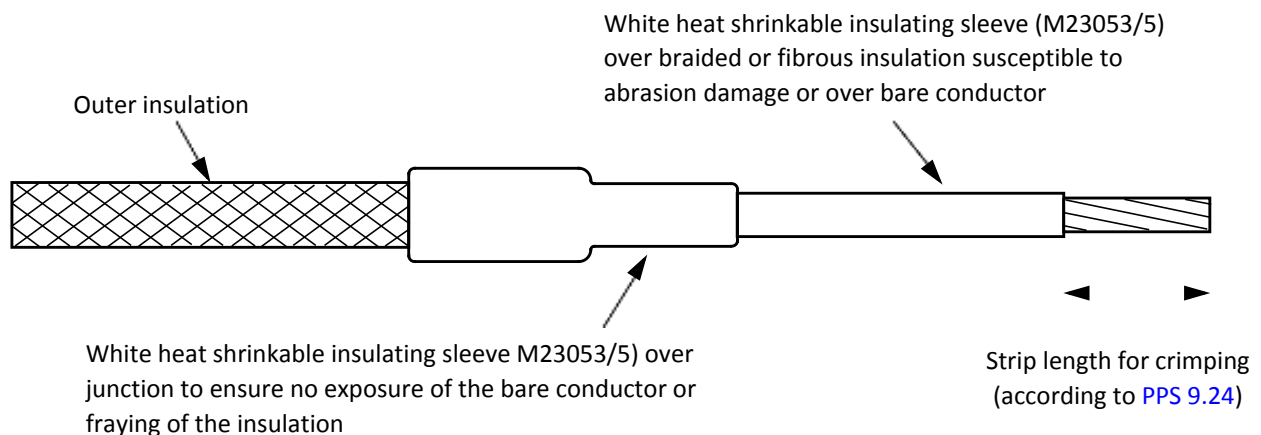

Figure 2. Standard Preparation of High Temperature Wire
- If there is any risk of exposure of the bare conductor at the junction where the heat shrinkable sleeving butts against the unstripped wire insulation, oversleeve the junction with a length of white heat shrinkable insulating sleeving (see Figure 2).